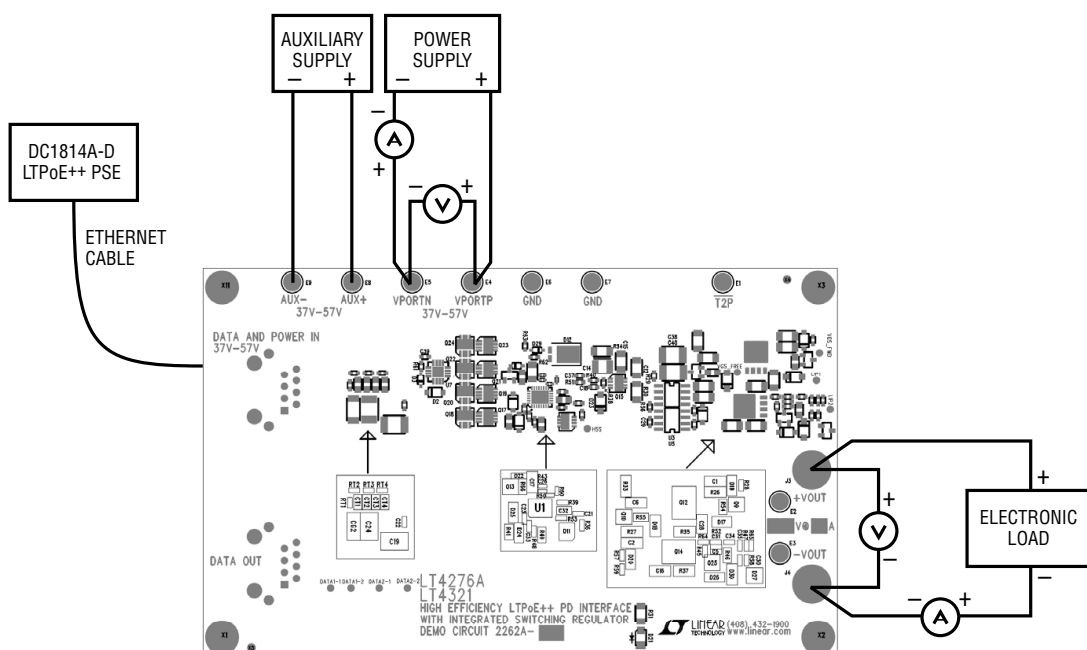

Figure 8. Proper Measurement Equipment Setup
Demonstration circuit 2262A-B is easy to set up to evaluate the performance of the LT4276 in a PoE application. Refer to Figure 8 for proper equipment setup and follow the procedure below:
1. Place test equipment (voltmeters, ammeters, power supplies, and electronic load) as shown in Figure 8.
- Or, connect a 37V to 57V capable power supply ("Power Supply" in Figure 8) across VPORTP and VPORTN.
- If evaluating the auxiliary power supply ("Auxiliary Supply" in Figure 8), connect a 37V to 57V capable power supply across AUX+ to AUX-.